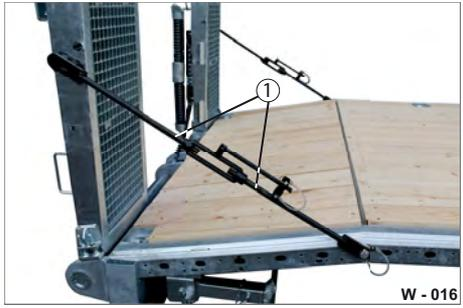

Fig. 19 Lubricating securing tensioner 1
- ▶ Lubricate the threaded linkage (Fig. 19/1 and Fig. 20/1) with machine grease.